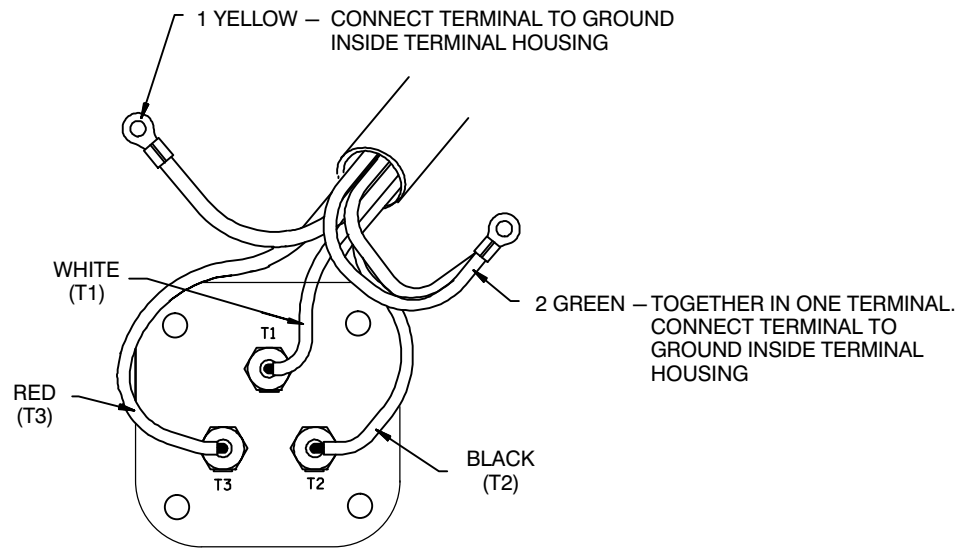

Figure 5. Terminal Housing Wiring Connections
Slide a length of heat-shrink tubing (11) up over each of the power cable leads. Install the leads on the terminal posts as shown in Figure 5 and secure them using the hex nuts (12). Slide the tubing down each lead until the terminals are covered and the tubing contacts the terminal plate. The tubing **must** extend up the leads far enough to ensure a good seal.